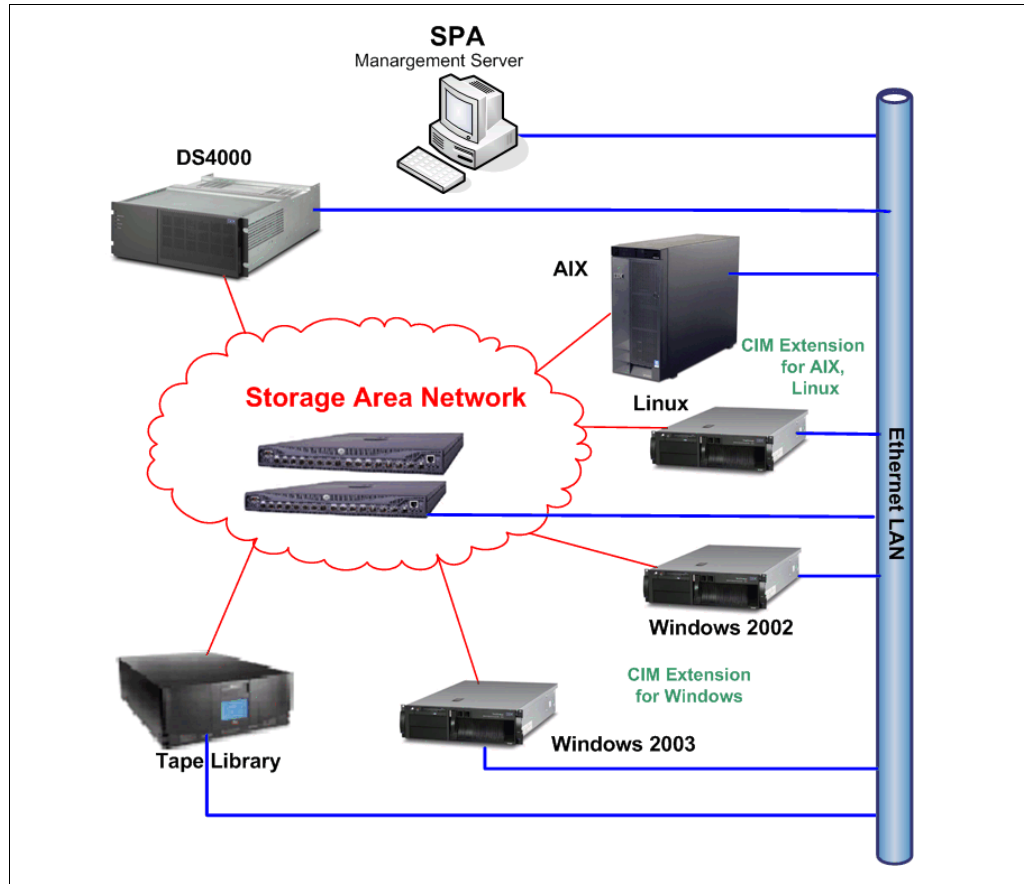

Figure 6-21 SPA overview
3. CIM Extensions: A CIM Extension is a Java based binary that gathers information from the operating system and host bus adapters. It then makes the information available to the SPA management server. Refer to the SPA Installation Guide product for information on how to install the CIM Extensions (Figure 6-21).